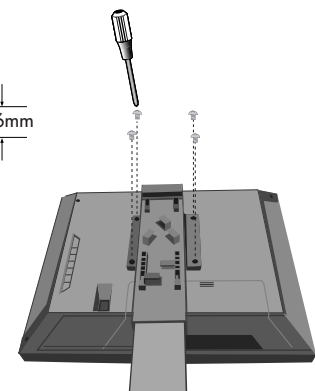

Figure S.2
4. Remove the 4 screws connecting the display to the stand (Figure S.2).